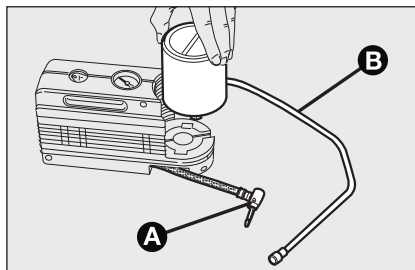

fig. 18
- ☐ disconnect connection **A**-fig. 18;